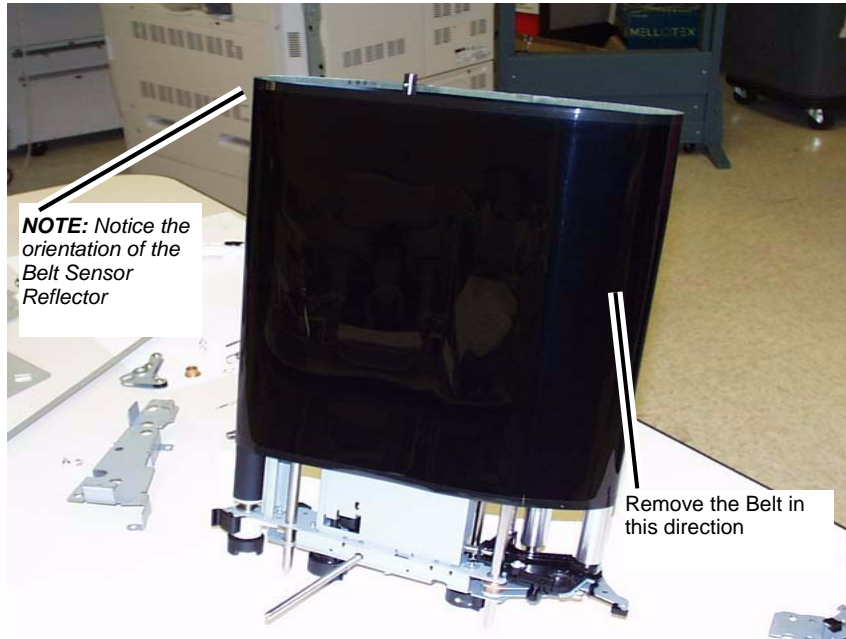

Figure 11 Removing the Belt
15. Carefully remove the IBT Belt from the IBT Module. (Figure 11)